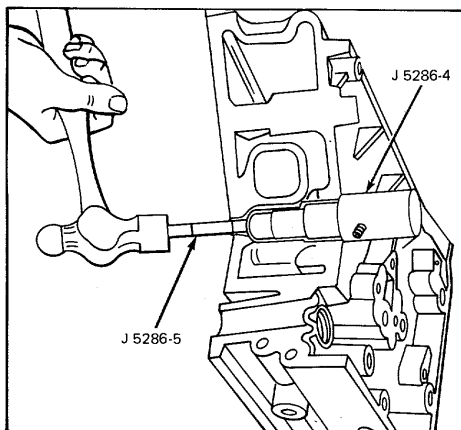

Figure 1. Removing Injector Tube.
The bore in the cylinder head for the fuel injector is directly through the cylinder head water jacket as shown in Fig. 1. To prevent coolant from contacting the injector and still maintain maximum cooling of the injector, a tube is pressed into the injector bore. This tube is sealed at the top with a neoprene ring and upset into a flare on the lower side of the cylinder head to create water-tight and gas-tight joints at the top and bottom.
2. Place injector tube installer J 5286-4 in the injector tube. Insert pilot J 5286-5 through the small opening of the injector tube and thread the pilot into the tapped hole in the end of the installer (Fig. 1).